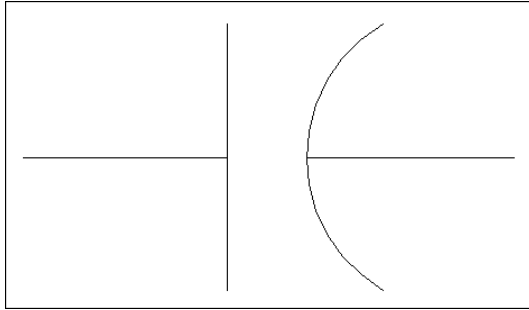

**Figure 10-23:** The completed capacitor symbol.
5. Save your drawing. It should look like Figure 10-23.